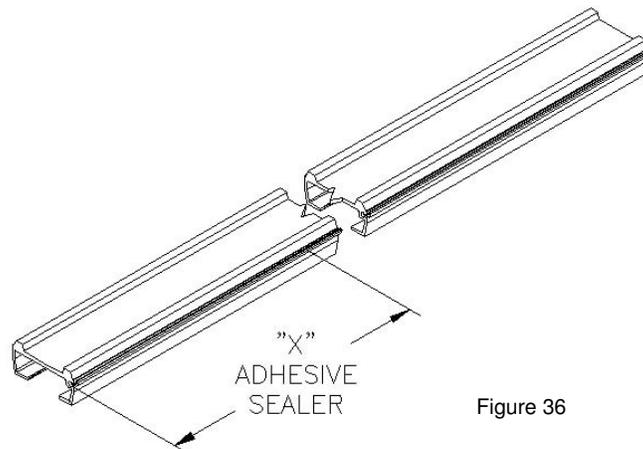
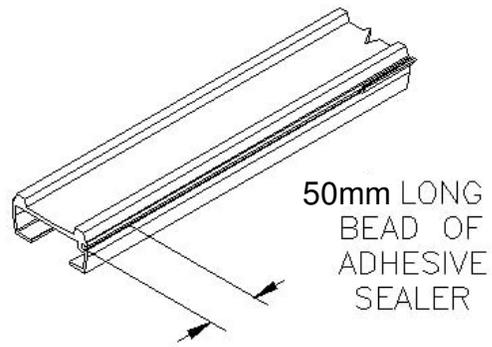
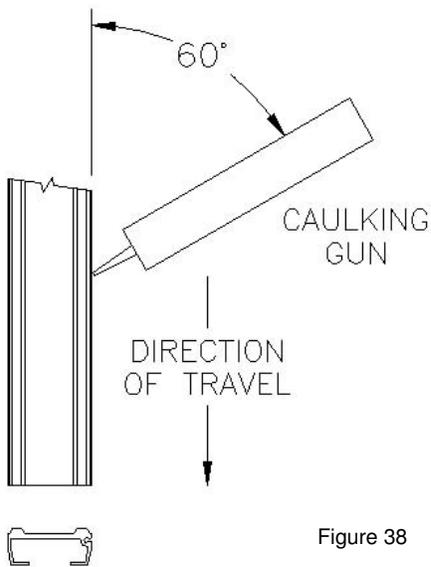

Figure 36
Figure 37
Figure 38
- d. Apply a 3mm diameter bead of SikaFlex 221 adhesive sealer into the exposed seal groove (Figure 36). The bead should be from the end of the seal to the end of the slat/plank. If using the polyethylene seal (blue) the bead should be 50mm long (Figure 37). Hold the caulking gun at a 60° angle to the floor slat/plank (Figure 38). Push the bead, do not pull.